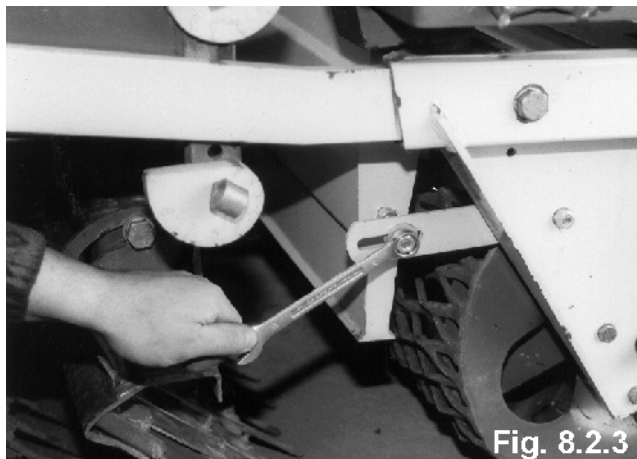

Fig. 8.2.3
- Undo both M10 nuts on both sides of the chute (Fig. 8.2.3)